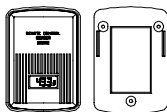

Figure 2
2. The Outdoor Remote Control Sensor (TX3U) and mounting bracket. (Figure 2)
- a) Remove the mounting bracket from the Remote Control Sender (figure 2).